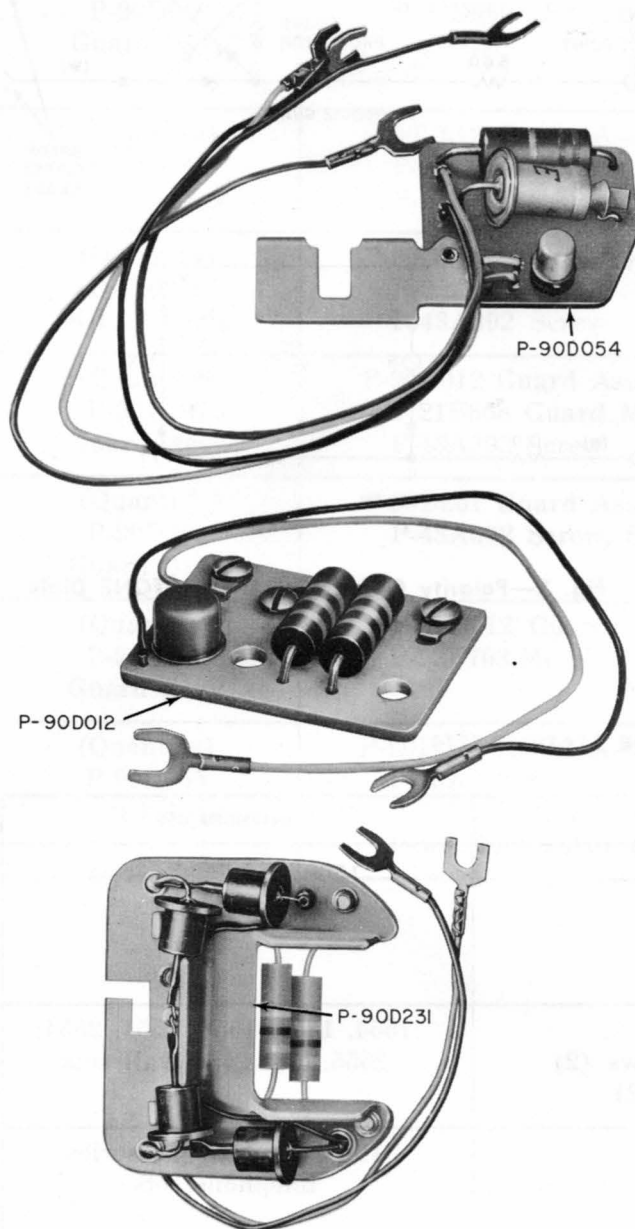

Fig. 1—Guard Assemblies
- (a) Available in three physical arrangements shown in Fig. 1